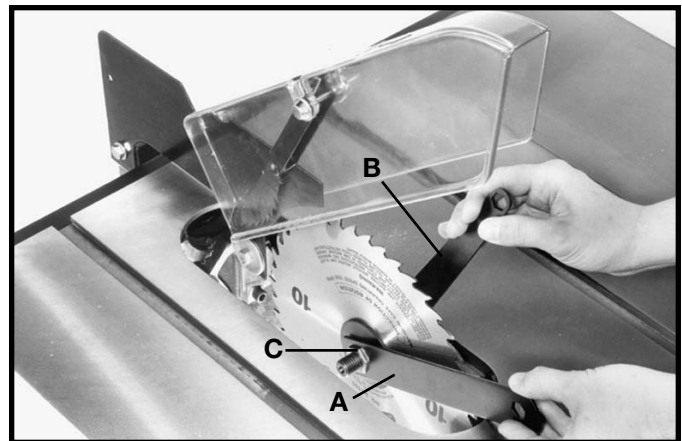

Fig. 124
4. Place the open end wrench (B) Fig. 124, on the flats of the saw arbor to keep the arbor from turning, and using wrench (A), turn the arbor nut (C) clockwise. Remove arbor nut, blade flange and saw blade.
5. Assemble the new blade, making certain the teeth are pointing down at the front of the saw table and assemble outside blade flange and arbor nut. With wrench (B) Fig. 124, on the flats of the arbor to keep it from turning, tighten arbor nut by turning wrench (A) counterclockwise.